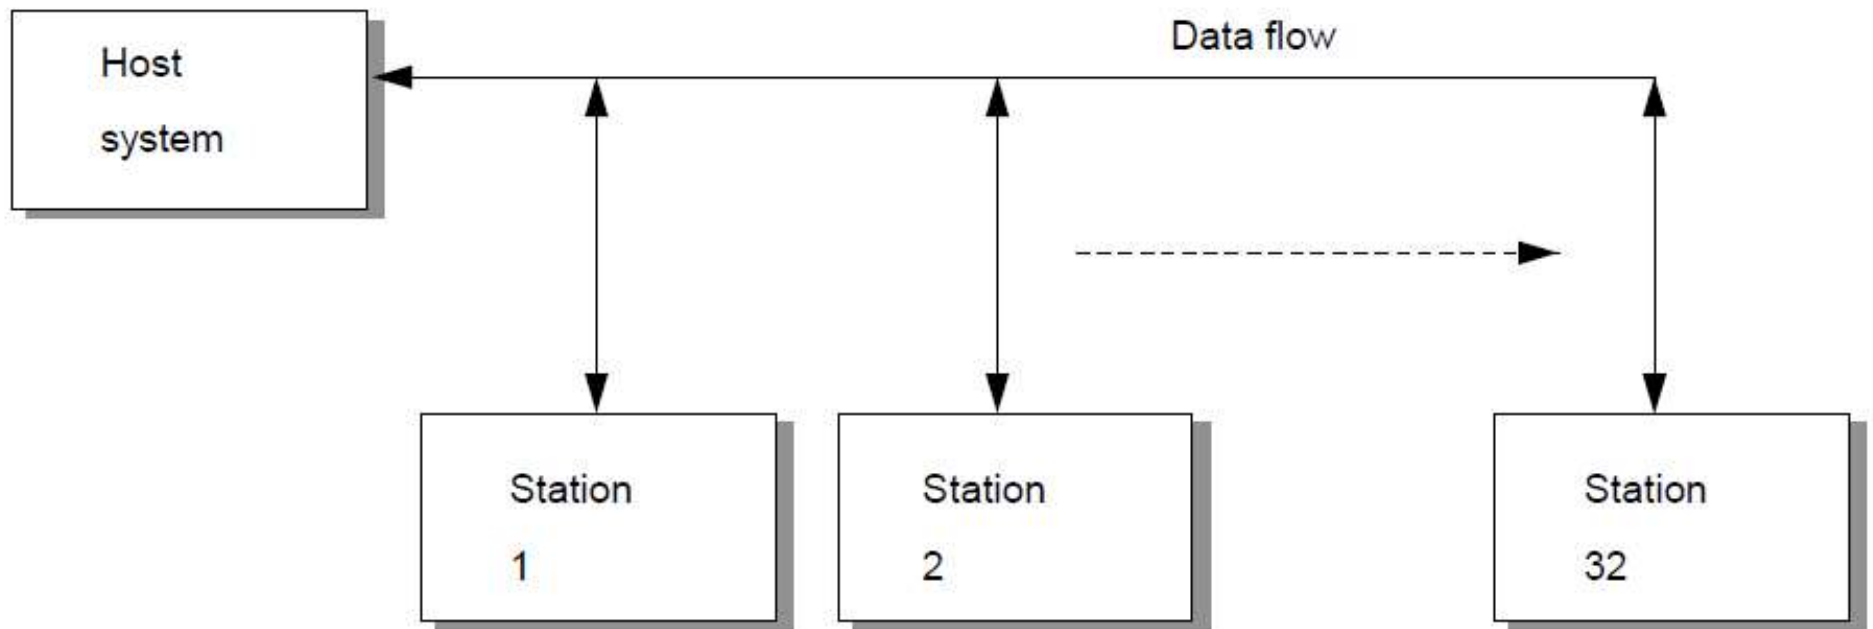

Figure 13: RS-485 connecting to multiple nodes
- A network using the RS-485 standard can have up to 32 transmitters/receivers with a maximum cable length of 1.2 km, as shown in Figure 13.